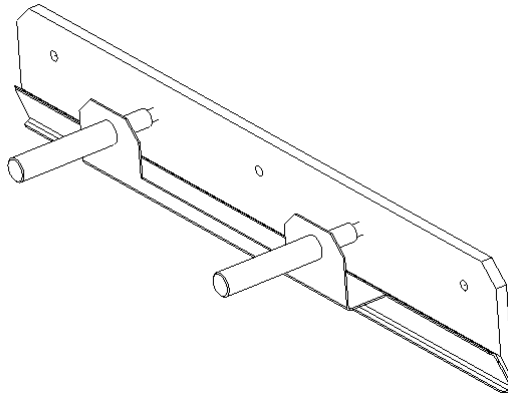

Figure. 28a. Knife in the transport handle
into the special protective packaging (Fig. 28a - 28d.) With the blade inwards and fasten it with two screws. To unscrew the bolts fixing the blade knife, use the RWTg 8 wrench provided on the cutter.
8.1.2.2. Remove the knife from the packaging (Fig.28a - 28d)